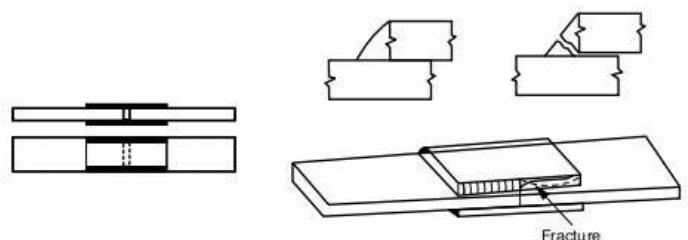

Fig. Q.27.4 Fracture position in side fillet weld
- In case of side fillet weld subjected to shear forces along the weld, failure occurs through the throat of the weld as shown in Fig. Q.27.4,